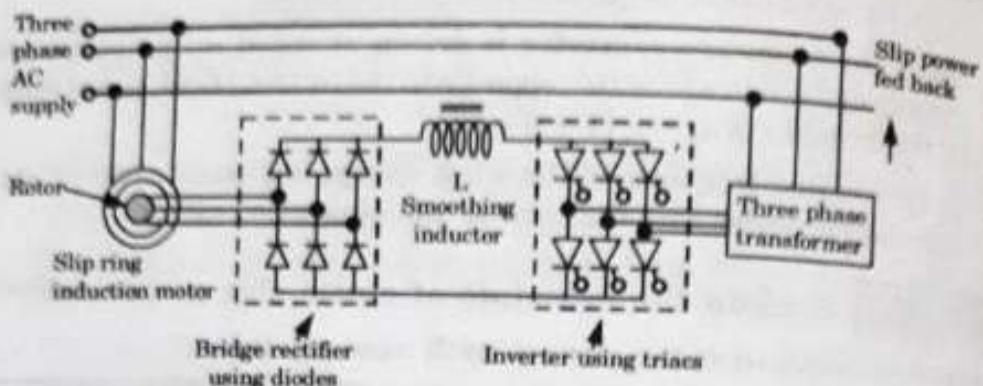

Fig. 1.3.1. Slip power scheme.
4. The Fig. 1.3.1 shows the slip power recovery scheme of controlling the speed of slip ring induction motor.